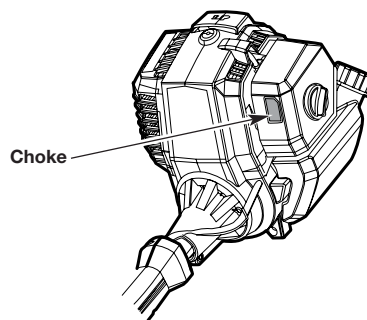

Fig. 9
4. Push the choke button in until it clicks (Fig. 9).